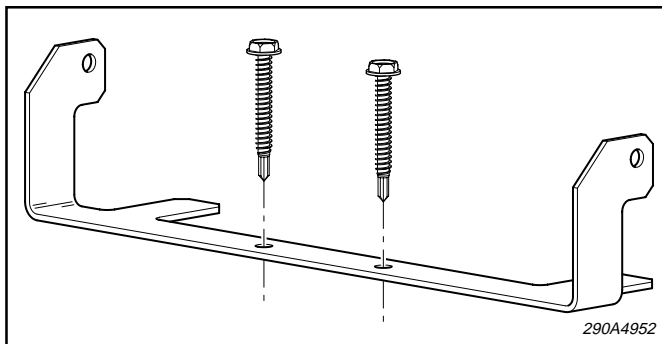

Figure 1.
1. *Center Bracket (see figure 1).*
b. Position the center bracket as shown in figure 1, centered behind and butted against the CHMSL mount. Using the bracket as a template, mark the mounting hole locations.